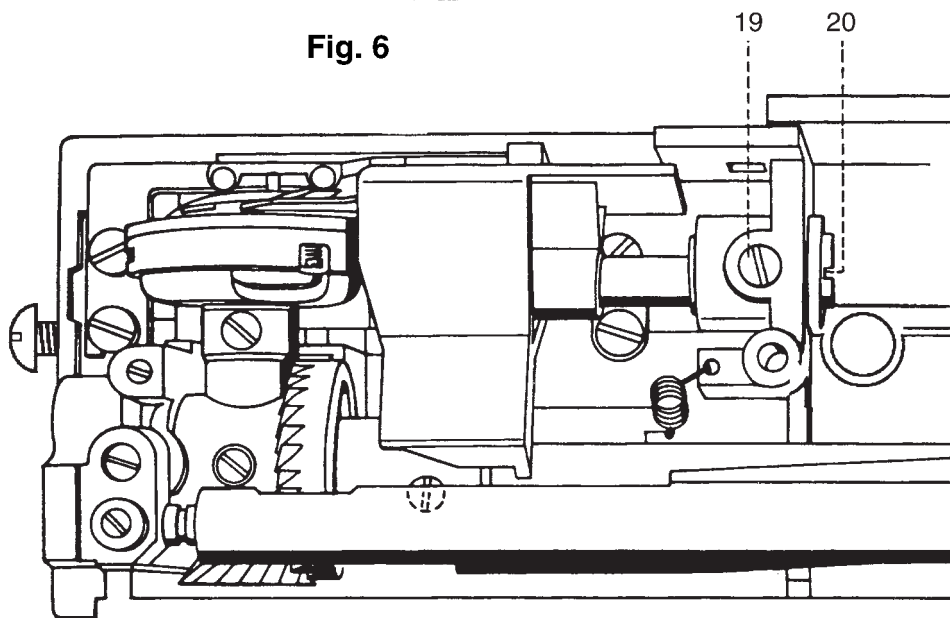

Fig. 7
- Loosen screw 19 by just 1/8 of a turn (fig 7).